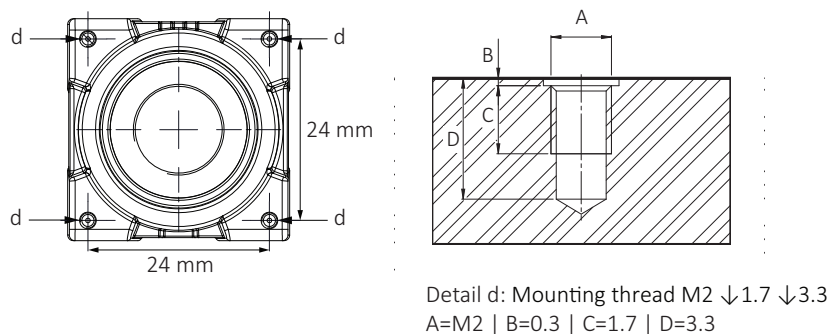

Figure 61: Camera front with mounting threads (d)
1. Mount the camera to the base using suitable M2 screws at 0.17 Nm maximum torque for a thread engagement (C) of 1.7 mm between screws and mounting threads, see Figure 61. For technical drawings, see Dimensions and mass on page 127.